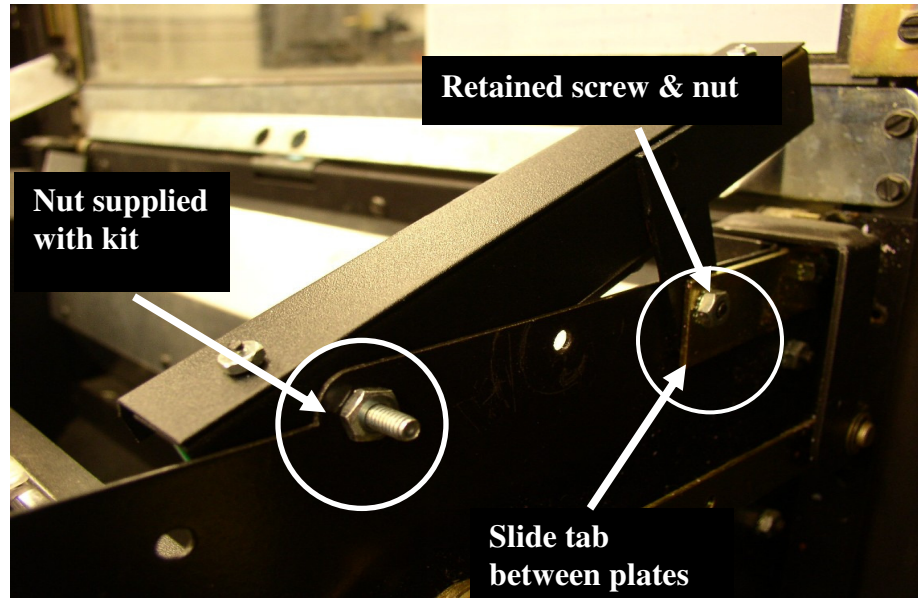

Figure 2 (Typical representation)
2) Install sensor bracket assembly on delivery bucket. Insert stud, on sensor bracket assembly, into hole on delivery bucket. Rotate bracket down toward delivery bucket. Slide tab on bracket between delivery bucket and support bracket. Install screw and nut that was retained after removal of deflector and tighten. Install nut supplied in kit on stud on sensor bracket assembly and tighten. **(Figure 2)**